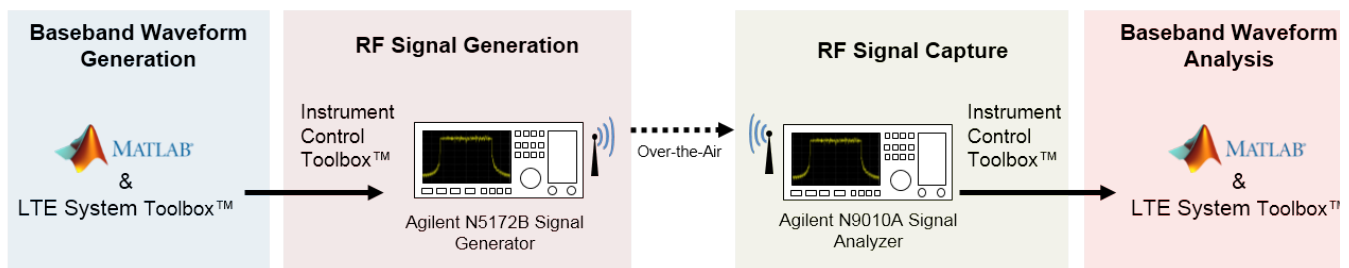

Figure 1. LTE signal generation and capture using an RF signal generator and analyzer.
This example demonstrates a signal generation and capture using a radio frequency (RF) signal generator and analyzer as part of an LTE system design verification process (Figure 1). We download a baseband waveform, synthesized in MATLAB using LTE System Toolbox, to a signal generator for over-the-air transmission. A signal analyzer is then used to capture the over-the-air signal, which is analyzed in MATLAB.